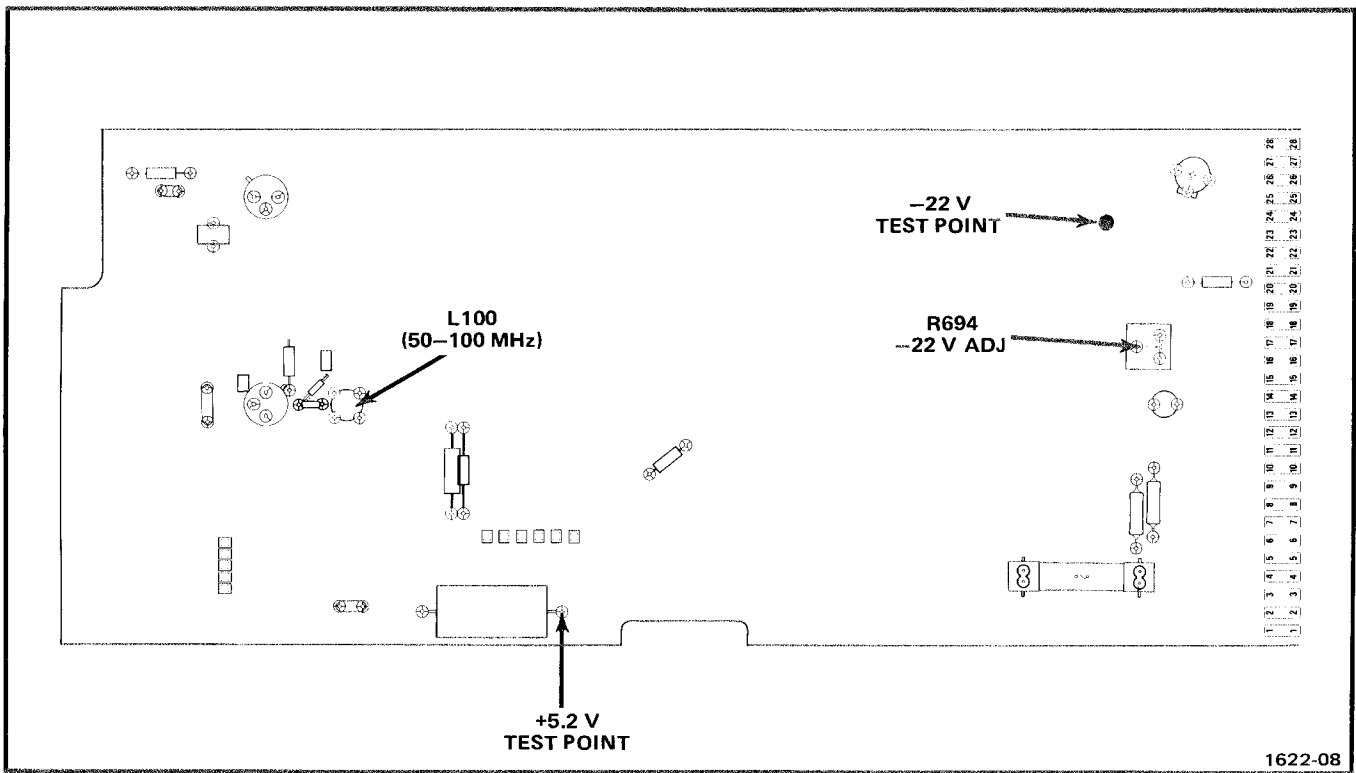

Fig. 3-1. Location of test points, L100, and -22 volt adjustment.
- a. Connect the digital voltmeter between the -22 V test point on the Main circuit board, and chassis ground. See Fig. 3-1 for voltage test point location.
- c. Adjust— -22 V adj, R694, for a meter reading of -22 volts. See Fig. 3-1 for adjustment location.
a. Connect the digital voltmeter between the +5.2 V test point on the Main circuit board, and chassis ground. See Fig. 3-1 for voltage test point location.